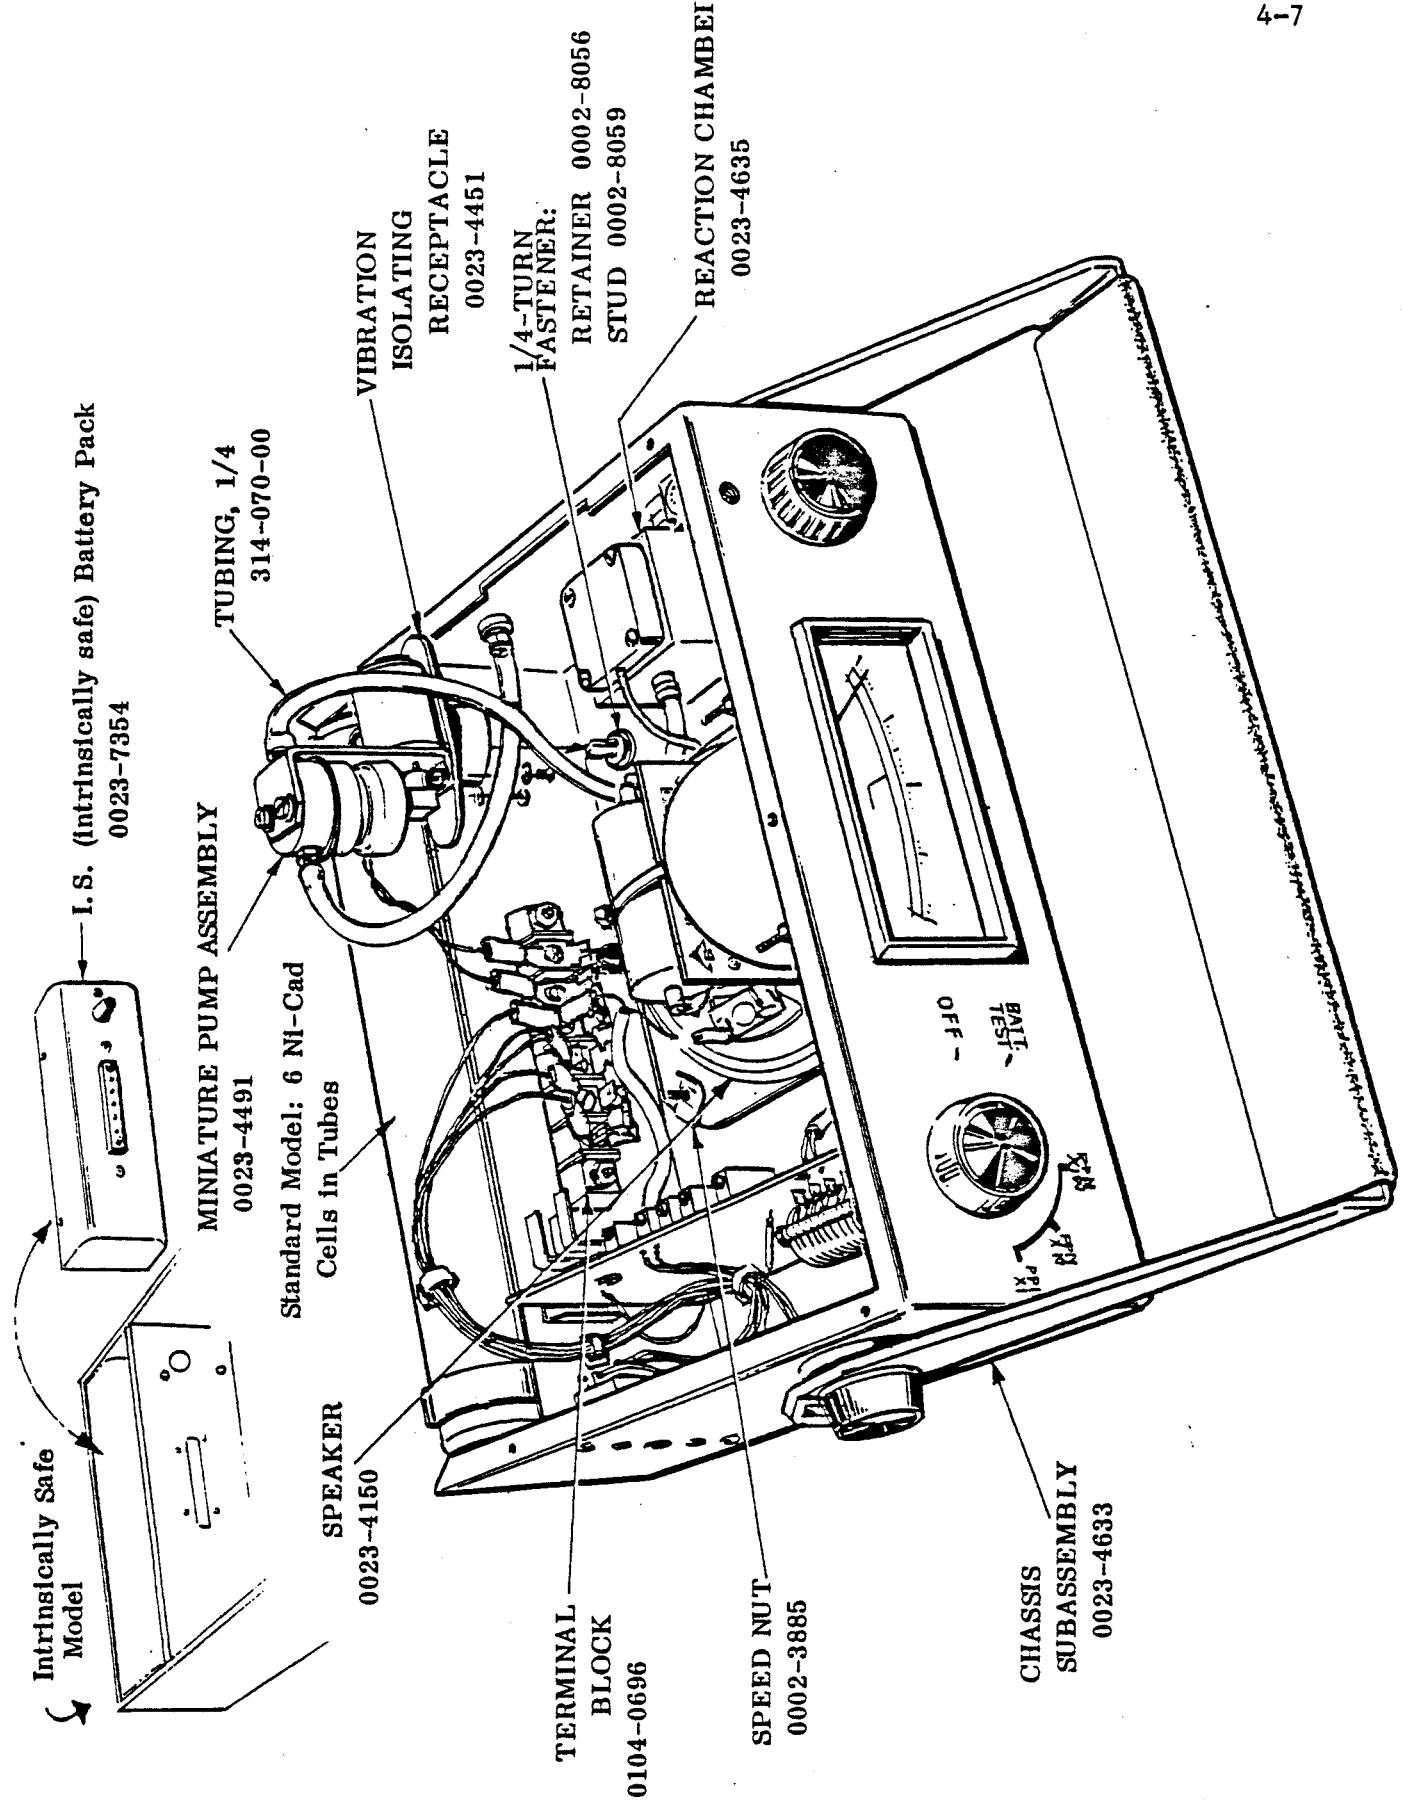

Figure 4-1. TLV Sniffer Chassis Subassembly Showing Miniature Pump Assembly in Disassembled Position.
6. Install replacement pump and connect motor leadwires and flexible plastic tubes as shown in Figure 4-1.